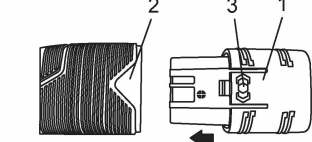

Fig. 2
1. Remove the discharged battery (1) from the tool (2) by pressing on the battery release buttons (3) on the sides of the battery (Fig. 2).